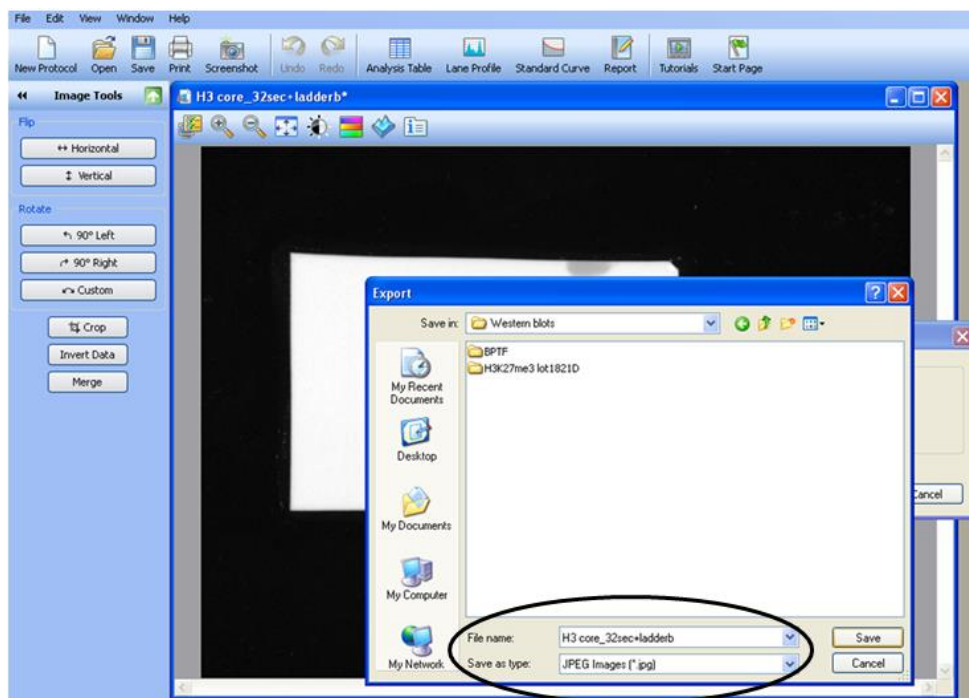

Figure 29
8.2.15. Change the file type to a jpeg image, and save the merged image in the same folder in the directory noted in Step 8.2.10 (Figure 29). Change the name of the file to reflect that it is a merged image.